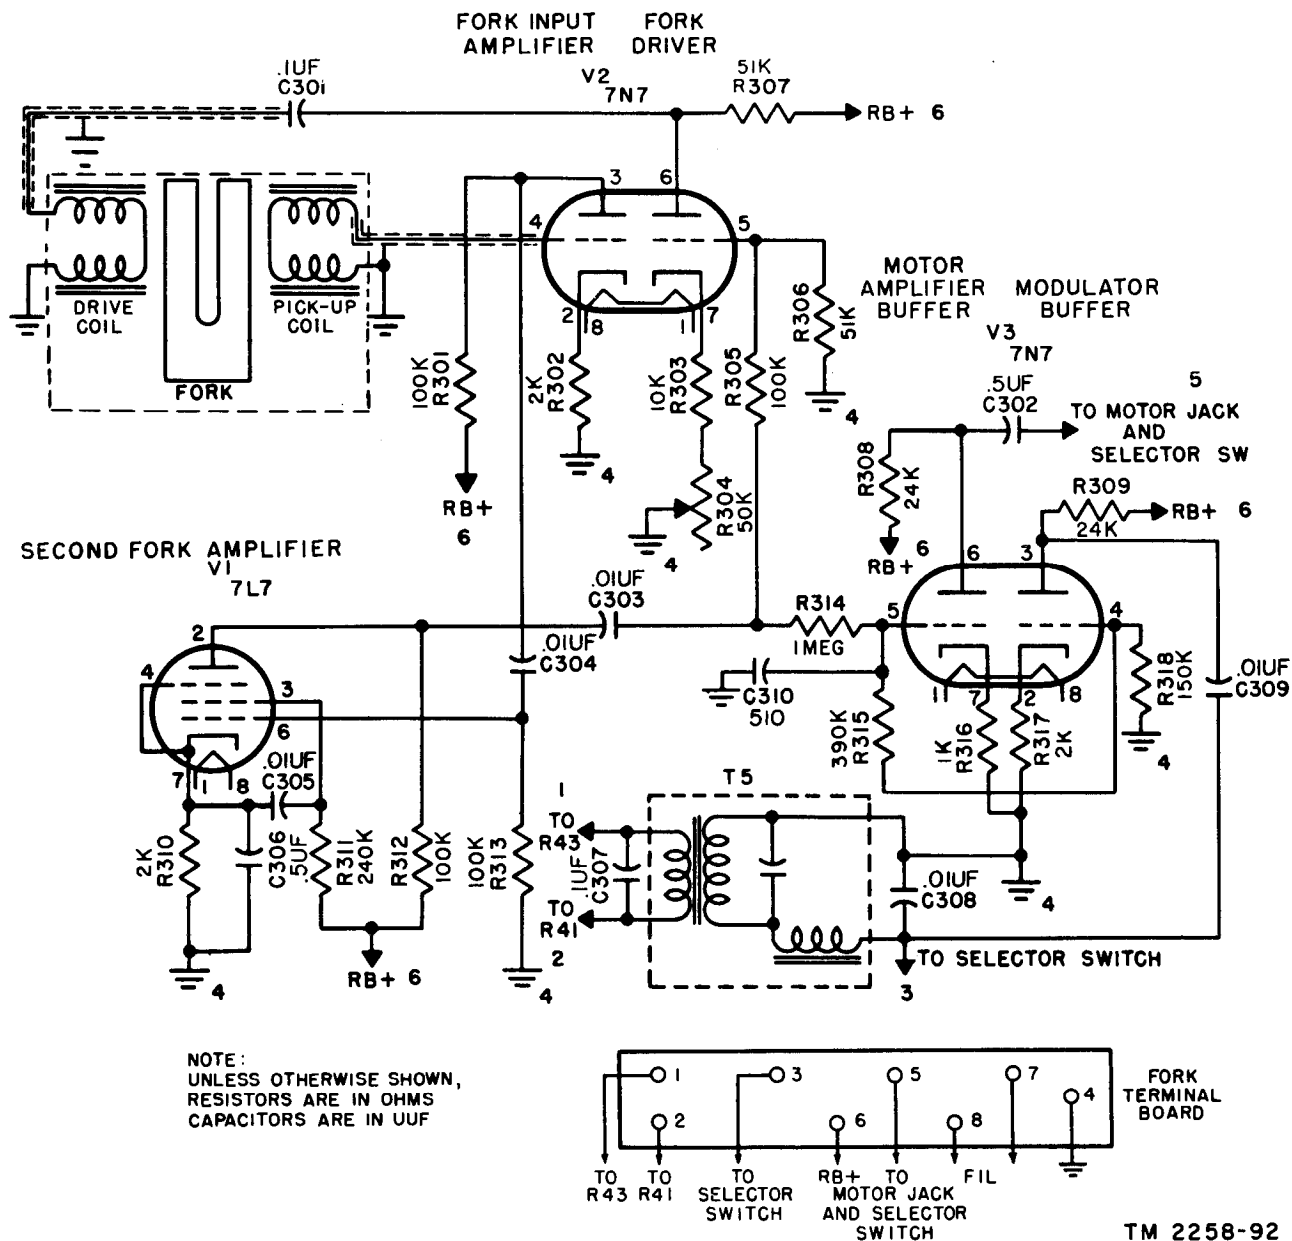

Figure 39. Sealed fork oscillator unit, schematic diagram.
a. Block Diagram. Figure 38 shows, in block diagram form, the signal paths in the sealed fork oscillator unit. One-half of V2 picks up the weak signal from the fork and amplifies it enough to drive V1 so that the output of V1 is constant despite minor variations in input. The constant level output of V1 is amplified in the other half of V2, the output of which feeds the drive coils of the tuning fork. Part of the output of V1 is impressed on V3, one section of which feeds the motor amplifier and exciter lamp amplifier circuit, and the other section of which feeds the photocell bridge modulator circuit. A complete schematic diagram of the sealed fork oscillator unit is shown in figure 39.
b. *Fork Input Amplifier Fork Driver* (fig. 39). Dual triode tube V2 (7N7) serves as the fork input amplifier and fork driver.
- (1) *Fork input amplifier*. Pins 2, 3, and 4 comprise the fork input amplifier which is fed 1,800-cycle energy generated in the pick-up coil by the vibrating fork. Resistor R302 is the unbypassed cathode resistor. Plate voltage is applied to pin 3 from the regulated +250-volt supply through plate load resistor R301. The output developed across the resistor is coupled to the grid (pin 6) of the second fork amplifier V1 (7L7) through coupling capacitor C304.
- (2) *Fork driver*. Pins 5, 6, and 7 comprise the fork driver. Input to the grid (pin 5) is received from the plate of V1 through coupling capacitor C303 and series resistor R305. Limiting resistor R305 and grid resistor R306 serve, as a voltage divider for the input to this section of V2. Regulated +250 volts is supplied through plate load resistor R307. Output from the plate is coupled through C301 to the drive coil which keeps the fork oscillating. The cathode circuit consists of two unbypassed resistors: fixed resistor R303 and variable resistor R304. Adjust R304 to compensate for minor changes in the frequency of the fork.
c. *Second Fork Amplifier* (fig. 39). Second fork amplifier V1 (7L7) is an amplifying link in the oscillator circuit composed of the fork, the input amplifier, the second fork amplifier, and the fork driver. The grid (pin 6) is fed from the plate (pin 3) of V2 through coupling capacitor C304. The grid voltage is developed across resistor R313. Cathode resistor R310 is bypassed by C306. Screen voltage is supplied through dropping resistor R311 and the screen is bypassed to cathode by C305. The plate load resistor is R312 and the 1,800-cycle output from the plate (pin 2) is coupled to the fork driver through C303 and limiting resistor R305. Part of the output of V1 is applied to the dual buffer output stage V3 through limiting resistor R314.
d. *Fork Output Amplifier* (fig. 39). The fork output stage V3 is a 7N7 dual triode tube. It consists of two buffer amplifiers, fed by second fork amplifier V1. This tube supplies an 1,800-cycle signal to motor amplifier stage V4, the exciter